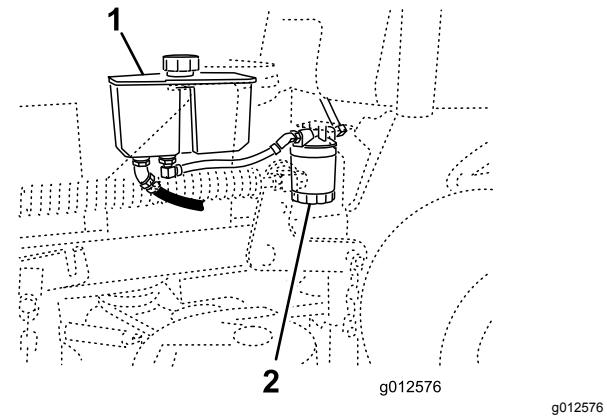

Figure 72
3. Locate the filter and place a drain pan under the filter (Figure 72).